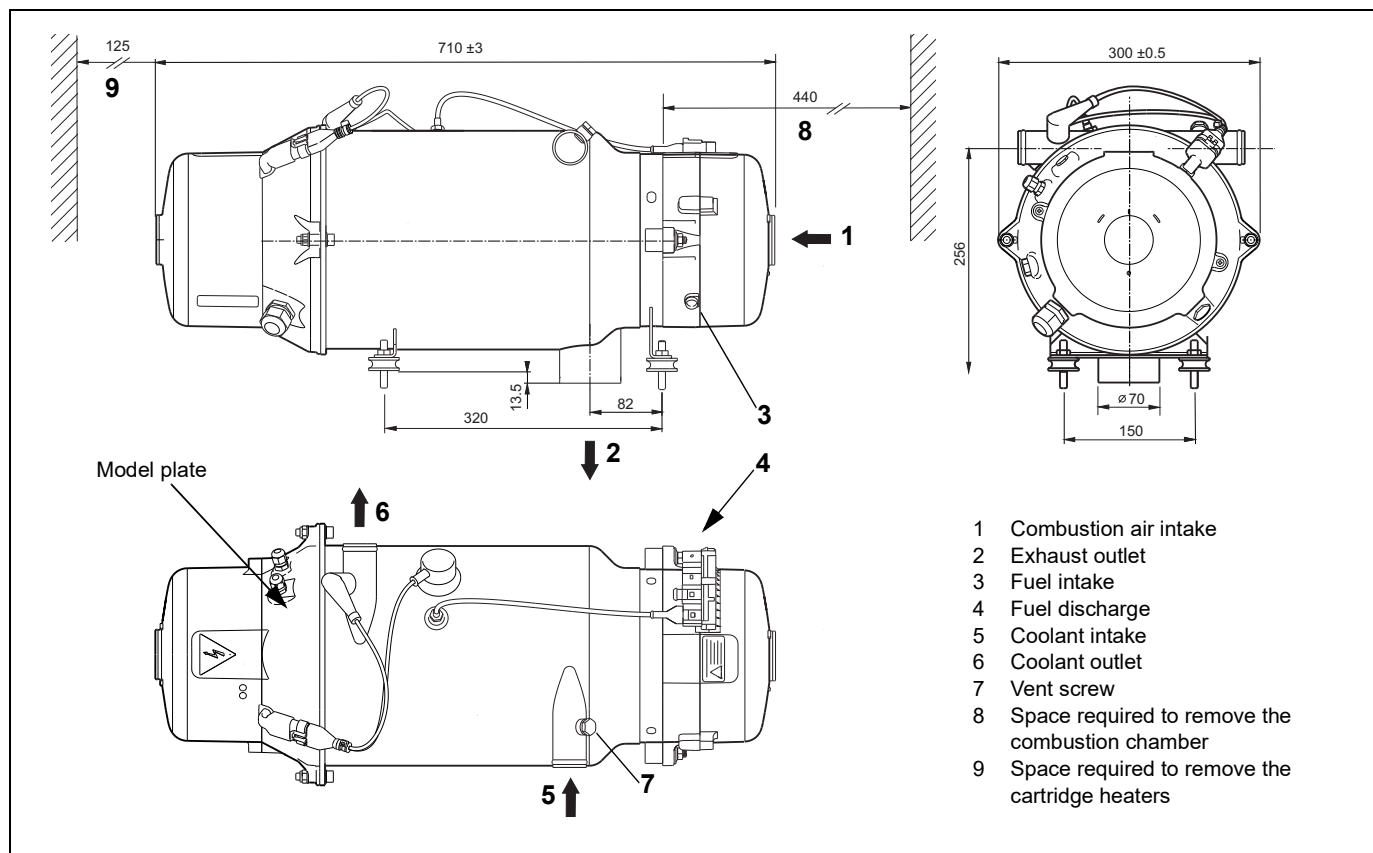

Fig. 2: Thermo H plus heater dimensions (horizontal installation)
- Consider the space required for servicing accessibility (e.g. removal of the combustion chamber) (see fig. 2).
The heater is to be connected to the vehicle cooling system in accordance with Figures 2 and 5. The system must contain at least 35 litres of coolant. A minimum of 30% of a good quality antifreeze should be maintained in the heating circuit of the heater at all times.
Use the vent screw item 7, Fig. 2, to bleed the system after the system has been filled and the pump has been switched on.